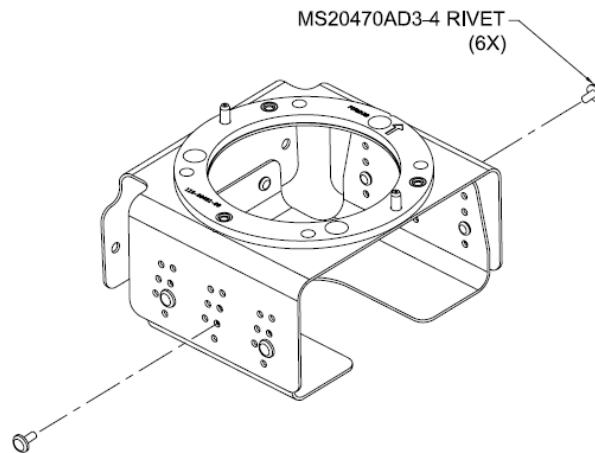

Figure B-12 Rivet shifted Magnetometer Mount
7. With the GMU 22 mount setup for installation in the right wing, shift the bracket to the minus 2 degree setting and rivet it in place using six 1/8" button head rivets as illustrated in Figure B-12.